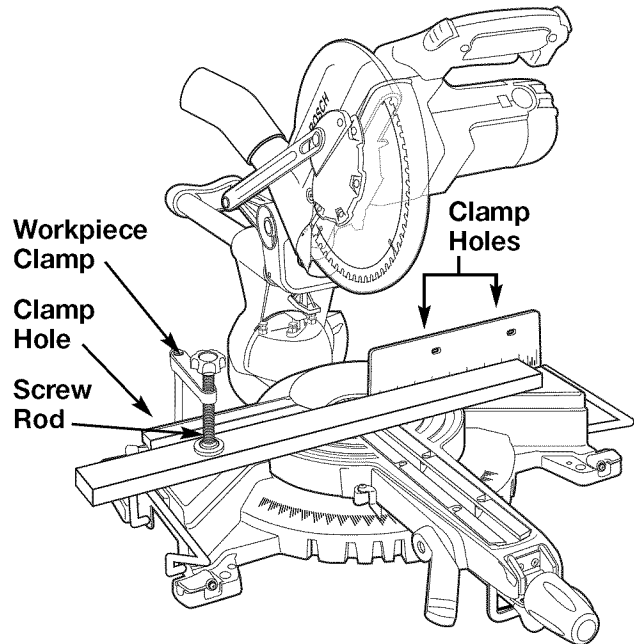

Figure 20. Workpiece Clamp
Workpiece Clamp - This clamp easily secures a workpiece in any of three (3) clamp holes behind the fence (Figure 20).